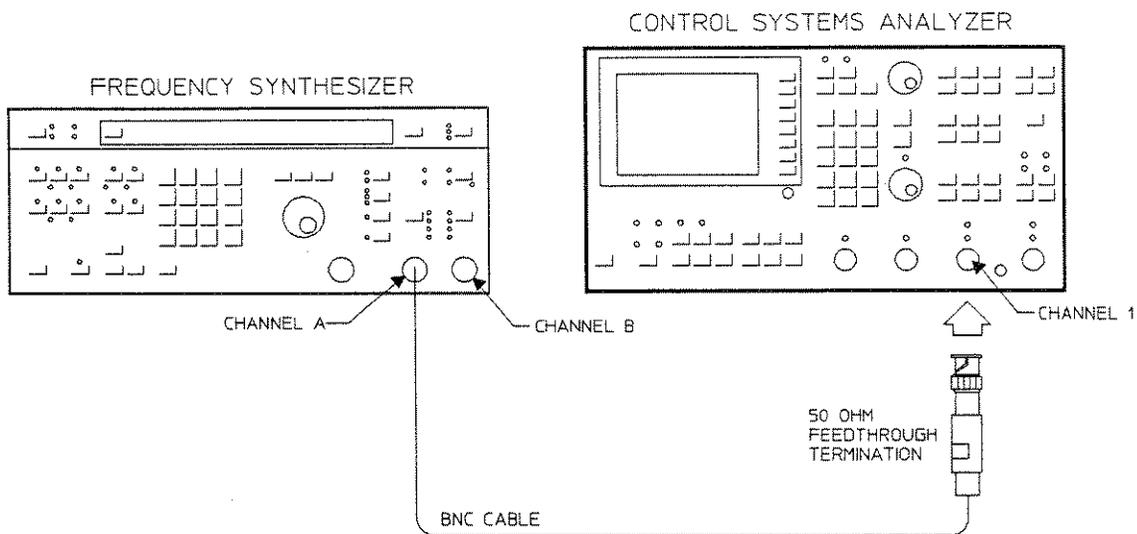

Figure 4-9. Frequency Accuracy Test Setup
1. Connect the test equipment as shown in Figure 4-9.